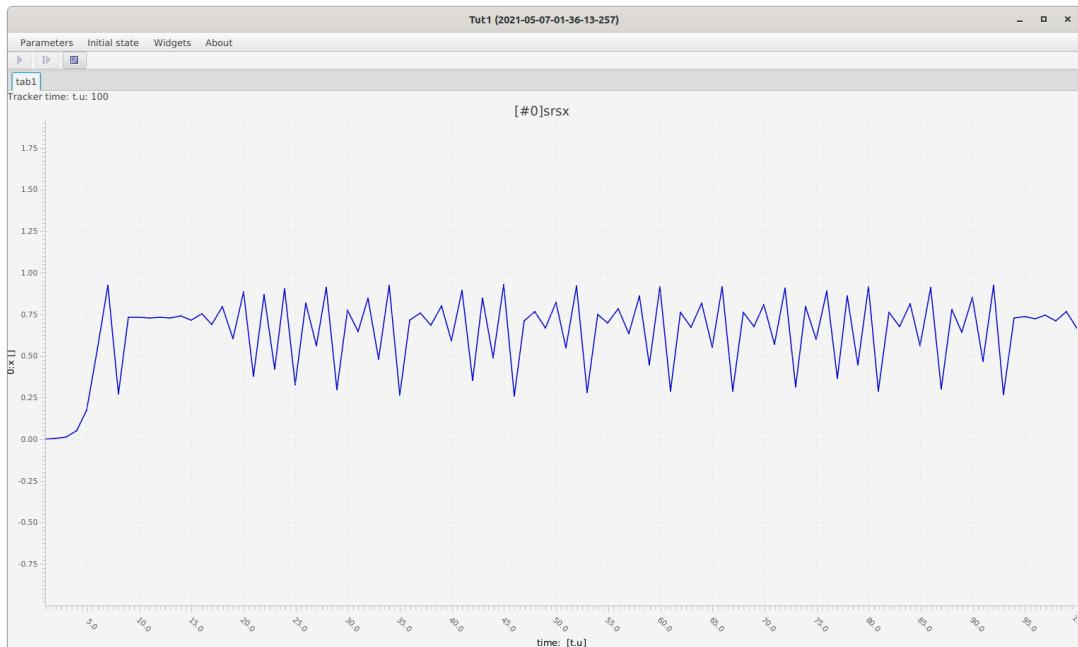

Figure 34. The appearance of *ModelRunner* while running Tutorial 1.
22. Save, re-deploy and run the simulation. You'll now see a time series of the chaos function of 100 time steps (Figure 34).